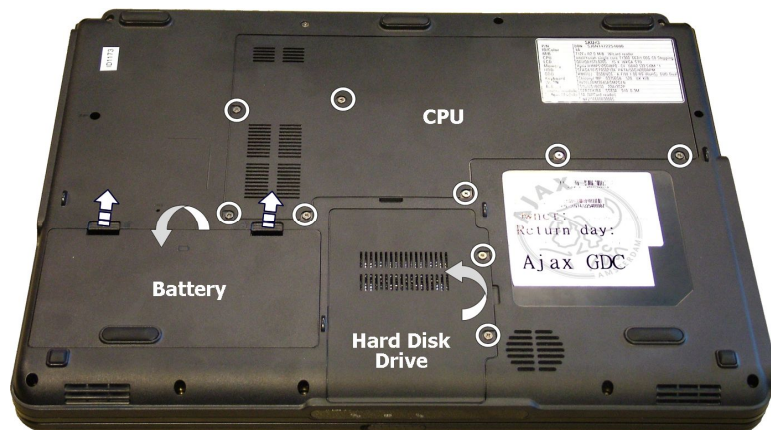

Fig. 1 Removing battery.
1. Remove the 2 screws on the hard disk drive cover and remove the cover (see Fig. 1).
1. Remove the 7 screws retaining the CPU cover (see Fig. 1).